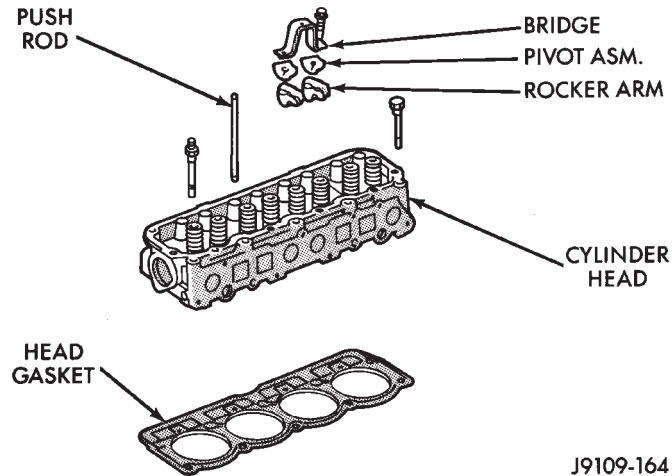

Fig. 34 Engine Cylinder Head Assembly
- (9) If equipped, disconnect the power steering pump bracket. Set the pump and bracket aside. DO NOT disconnect the hoses.
- (10) Perform fuel pressure release procedure (Refer to Group 14, fuel systems for proper procedures).
- (11) Remove the latch clip and disconnect the fuel supply hose.
- (12) Remove the intake and engine exhaust manifolds from the engine cylinder head (refer to Group 11, Exhaust System and Intake Manifold for the proper procedures).
- (13) Number and disconnect the ignition wires and remove the spark plugs.
- (14) Disconnect the coolant temperature sending unit connector.
- (15) Remove the engine cylinder head bolts.
- (16) Remove the engine cylinder head and gasket (Fig. 34).
- (17) If this was the first time the bolts were removed, put a paint dab on the top of the bolt. If the bolts have a paint dab on the top of the bolt or it isn't known if they were used before, discard the bolts.